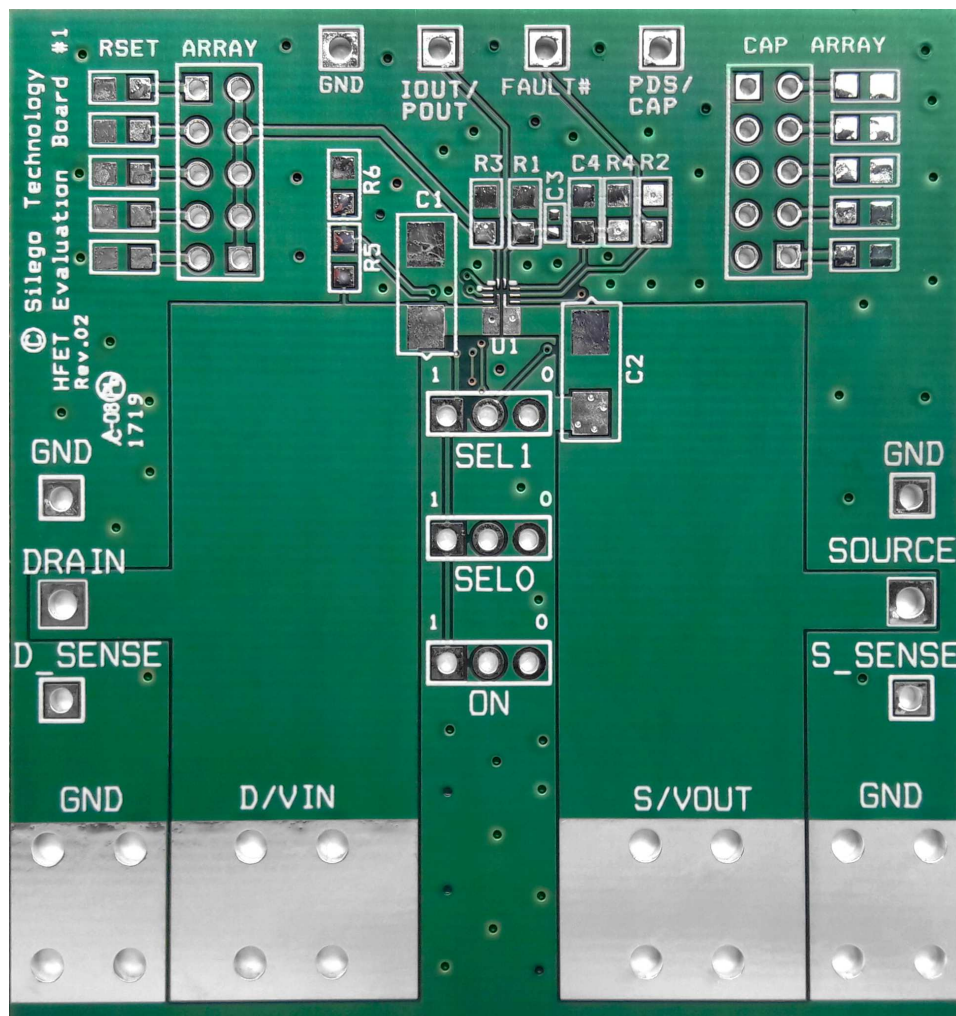

Figure 43. SLG59H1019V Evaluation Board
1. Since the VIN and VOUT pins dissipate most of the heat generated during high-load current operation, it is highly recommended to make power traces as short, direct, and wide as possible. A good practice is to make power traces with absolute minimum widths of 15 mils (0.381 mm) per Ampere. A representative layout, shown in Figure 43, illustrates proper techniques for heat to transfer as efficiently as possible out of the device;
A High Voltage GreenFET Evaluation Board for SLG59H1019V is designed according to the statements above and is illustrated on Figure 43. Please note that evaluation board has D_Sense and S_Sense pads. They cannot carry high currents and dedicated only for RDS_{ON} evaluation.